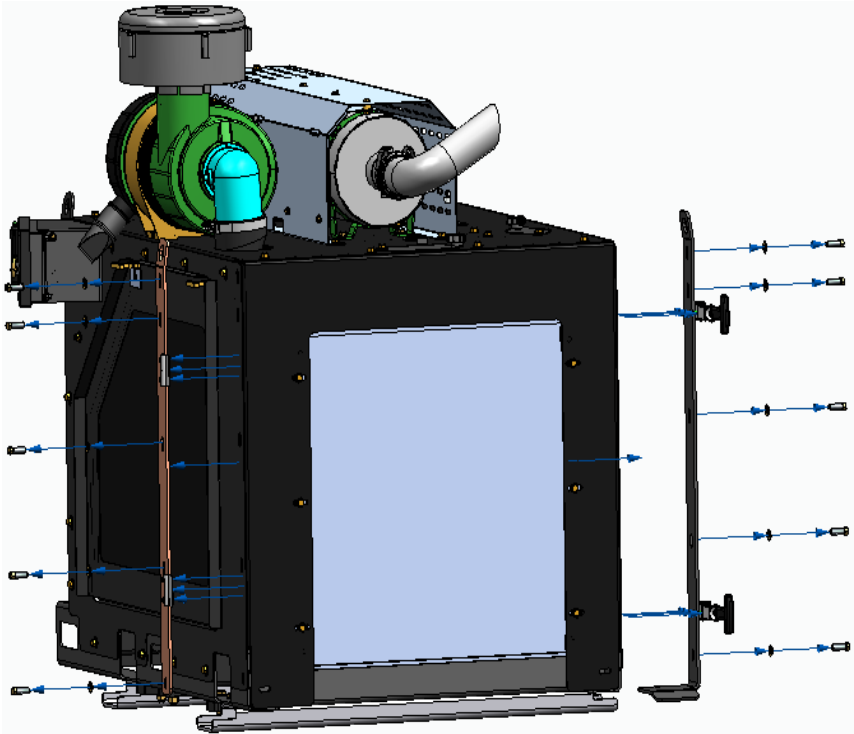

Figure 7
6) See Figure 7. Install new side plates using provided hardware.